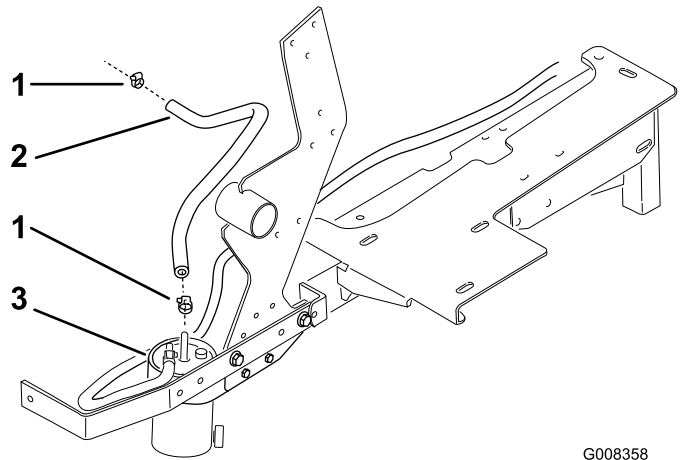

Figure 8
5. Install the new fuel hose to the water separator and to the engine fuel connection with 2 hose clamps (Figure 8). The connection to the engine is the same position as the fuel hose that was previously removed.